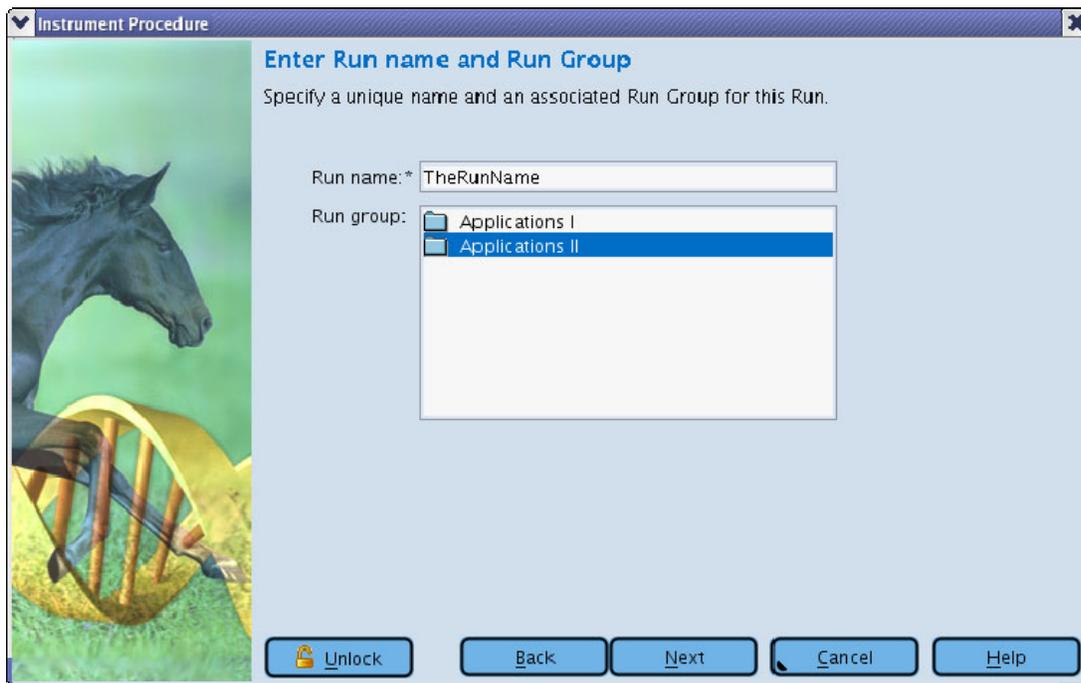

Figure 11: GS Sequencer Run Wizard – ‘Enter Run name and Run Group’ window
3. **Enter Run name and Run Group** (Figure 11) – Type in a Run name in the Run name entry field, and select a Run Group from the Run Group list. The Run name must contain only 0-9, a-z, underscore, or hyphen characters. This Run name will be part of the directory name used to store the sequencing Run results in the data file system; see step 9 below for more details on Run directory names.